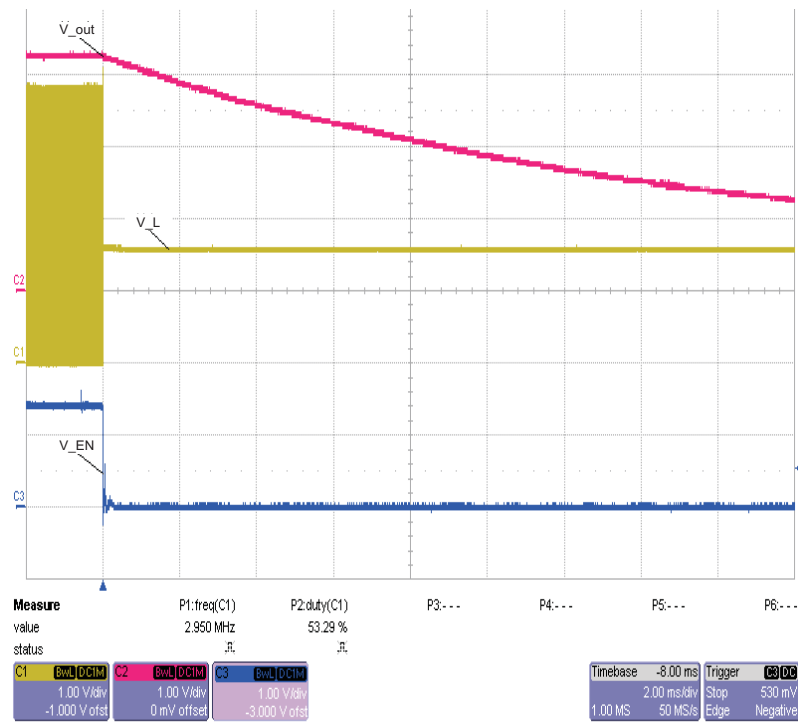

Figure 3. Power Down With Enable: Boost Switch Node, V_L , Output, Enable; $V_{in} = 1.5$ V, $V_{out} = 3.3$ Vdc With 49.9- Ω Load
4. Move shunt on JP1-ON to JP1-OFF, and verify that the boost converter is disabled (see Figure 3).